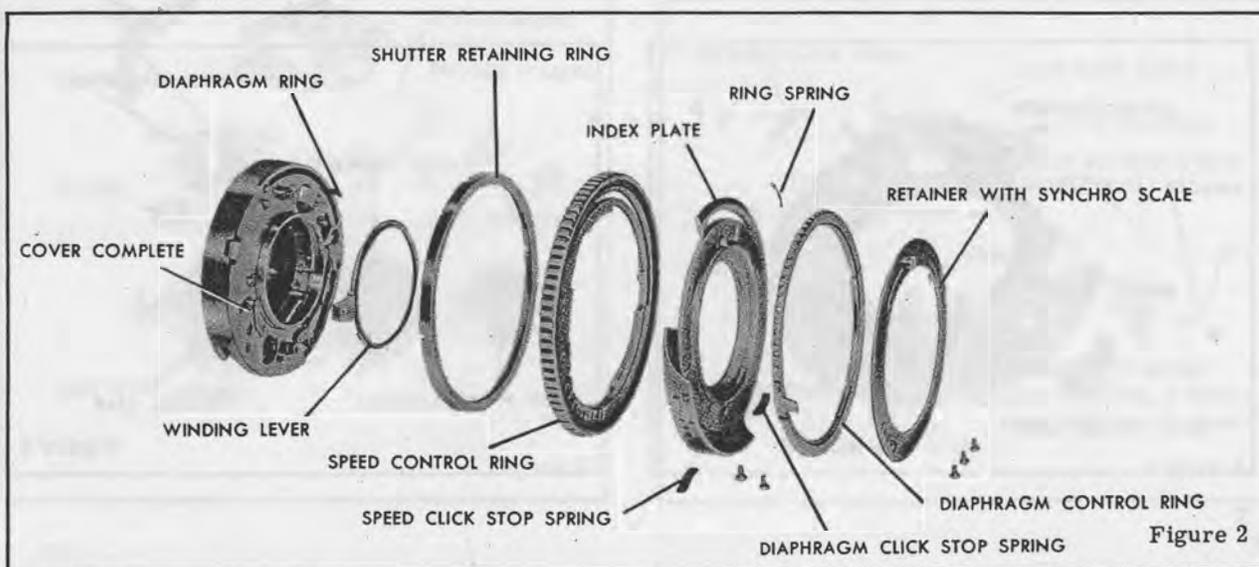

Figure 2
2. Diaphragm control ring RETAINER WITH SYNCHRO SCALE, figure 2.
1. Diaphragm control ring, fitting the notch opposite the pointer over the projecting lever on the DIAPHRAGM RING, figure 2.
2. DIAPHRAGM CLICKSTOP SPRING, figure 2.
3. WINDING LEVER, figure 2.
8. **SHUTTER RETAINING RING**, figure 2.